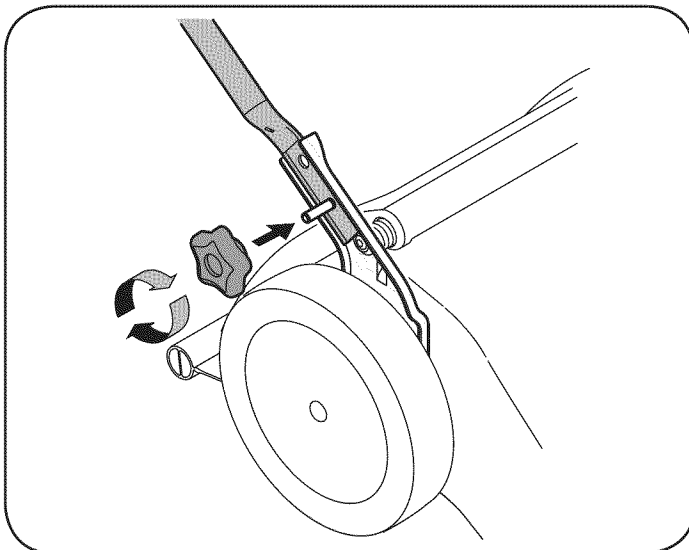

Figure 2
6. Tighten star knobs securing lower handle to handle brackets. See Figure 2. Make certain the lower handle is seated securely into the handle mounting brackets.